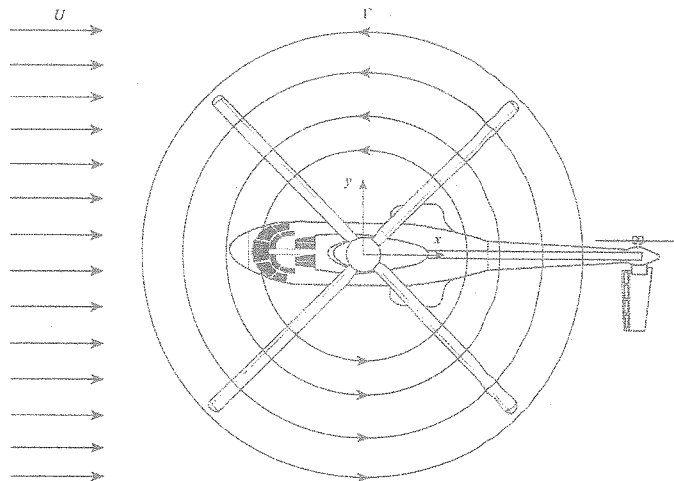

Figure Q1
- d) The flow generated by a helicopter rotor can be approximated to a free vortex of strength Γ . Wind flows at a relative velocity of U towards the helicopter as shown in Figure Q1. Determine the followings,